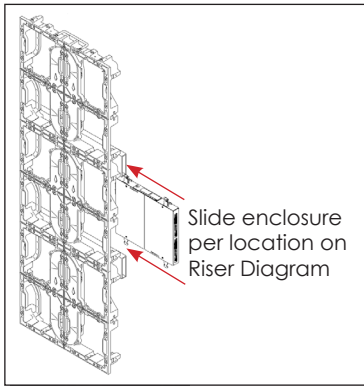

Figure 3: Slide PLR Enclosure behind Panel
1. Slide the PLR enclosure behind the display per the Riser Diagram with the enclosure ~3" [76.2 mm] from the edge of the display to ensure proper wire relief. Refer to **Figure 3**. Power connectors should point toward the inside of the display.